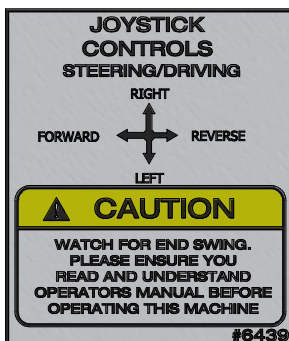

FIGURE 1
2. Use the Control Valve joysticks to raise, lower or move the conveyor (see Figure 1 and 2 below).